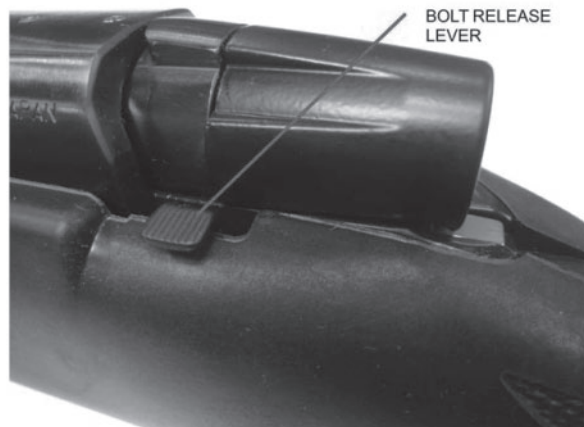

Fig. 4
1. Inspect the rifle and remove any ammunition present in the chamber or magazine (refer to items 3 & 4 of *Unloading the Rifle*, page 9)
4. Depress the bolt release lever as far as possible (refer to Fig. 4).
5. Push down on the bolt release lever (refer Fig 4).